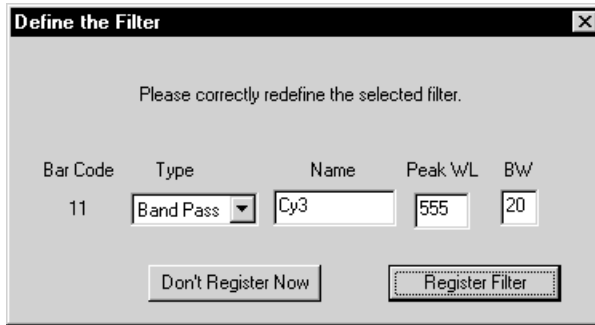

Figure 13-11. The Define the Filter window.
3. To display the Define the Filter window, right-click the selected emission filter in the Emission Filter list. The Define the Filter window appears and displays the current definition of the filter you selected in step 2 (figure 13-11).